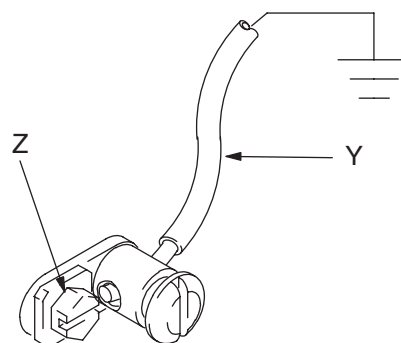

FIG. 1
**Pump:** Use a ground wire and clamp as shown in FIG. 1. Remove the ground screw (Z) and insert through the eye of the ring terminal at end of ground wire (Y). Fasten the screw back onto the pump and tighten securely. Connect the other end of the wire to a true earth ground. To order a ground wire and clamp, order Part No. 222011.